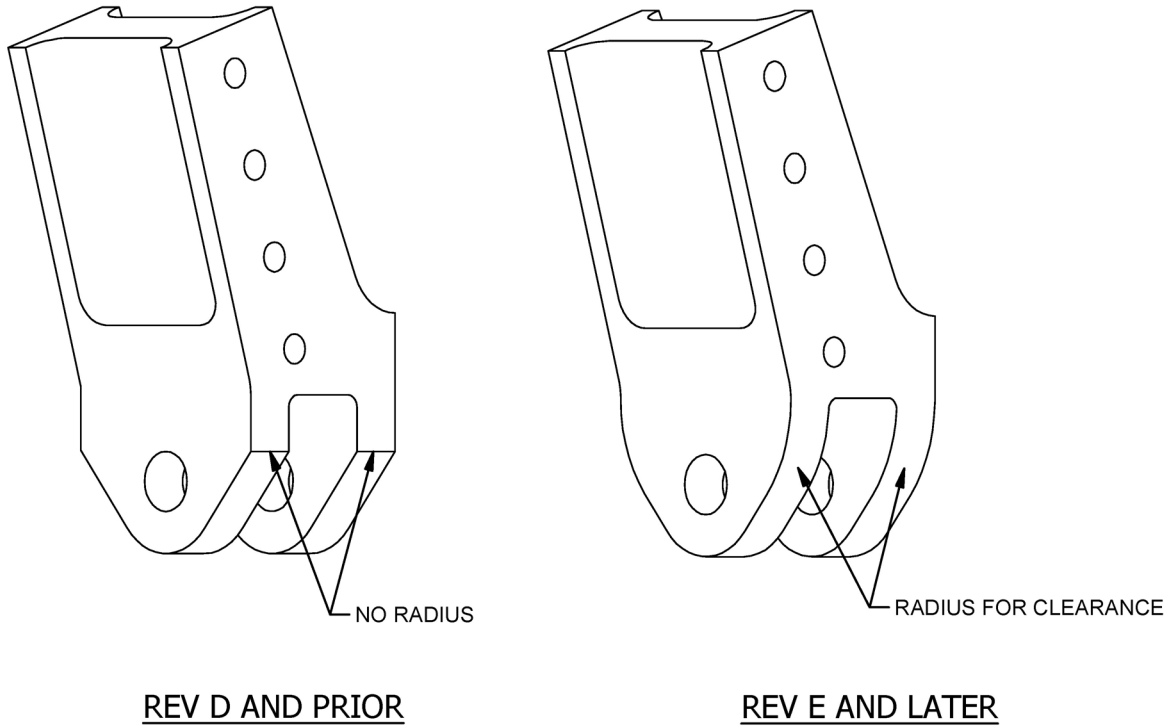

Figure 2 - Strut Fitting 10A02035-001
- Note:** Top doubler PNs 1011117 and 1011118 include a relief cut to allow installation of AN5-33A hex head bolt at the bottom-most location. Refer to Service Letter 282 for background. Additionally, review figure 2 below to determine if replacement 10A02035-001 fitting is needed.